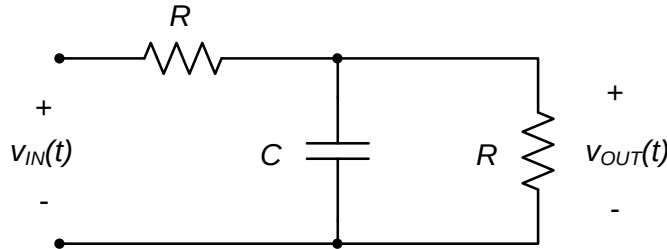

Figure 1. RC circuit.
This lab assignment concerns the circuit shown in Fig. 1. The overall behavior in response to sinusoidal inputs is relatively simple to understand. At very low frequencies, the capacitor has infinite impedance, the circuit becomes a simple voltage divider, and the output voltage phasor amplitude is simply half of the input voltage amplitude:
Determine the magnitude response of the circuit shown in Fig. 1. If  $R = 1\text{k}\Omega$  and  $C = 100\text{nF}$ , calculate the magnitude response (the ratio of the amplitude of the output sinusoid to the input sinusoid) of the circuit at frequencies of 500Hz, 1000Hz, and 10kHz. Do your magnitude responses at these frequencies agree with the expectations of the circuit response as expressed by equations (1) and (2)?
- a. Construct the circuit of Fig. 1, using  $R = 1\text{k}\Omega$  and  $C = 100\text{nF}$ .